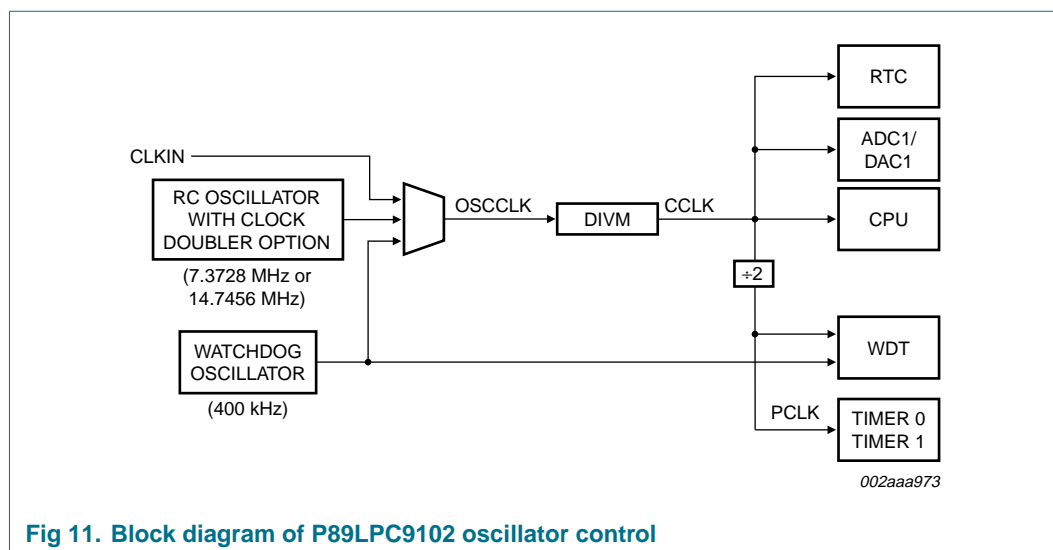

Fig 11. Block diagram of P89LPC9102 oscillator control
**OSCCLK** — Input to the DIVM clock divider. OSCCLK is selected from one of the clock sources (see Figure 11 “Block diagram of P89LPC9102 oscillator control”) and can also be optionally divided to a slower frequency (see Section 8.8 “CLK modification: DIVM register”).